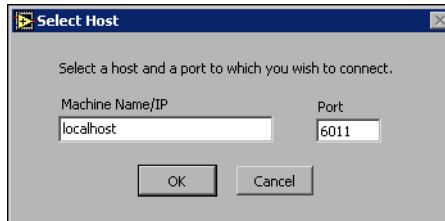

Figure 7. Select Host Dialog Box
3. In the **Select Host** dialog box, shown in Figure 7, make sure the **Machine Name/IP** is **localhost** and the **Port** is **6011**.